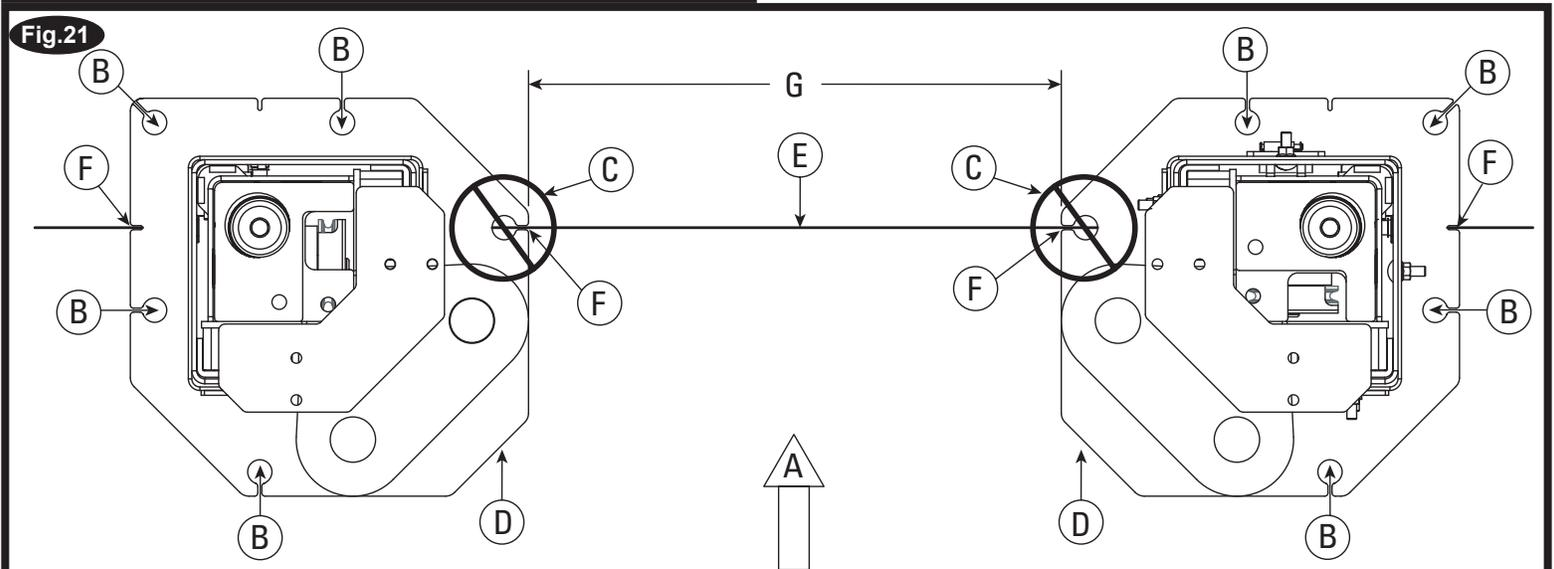

Fig. 21 Detail
2. Lift Setting: Position columns in bay using dimensions shown in spec drawings. With column lying on the floor, two people can lift the top of the column and walk towards the base. As the column approaches vertical, one of the two people should move to the opposite side of the column and assist in slowly setting the column flat on its base. Both column base plate backs must be square on center line of lift. Notches are cut into each base plate to indicate center line of lift. Using appropriate equipment, raise carriage to first latch position. Be sure locking latch is securely engaged. Fig. 21.